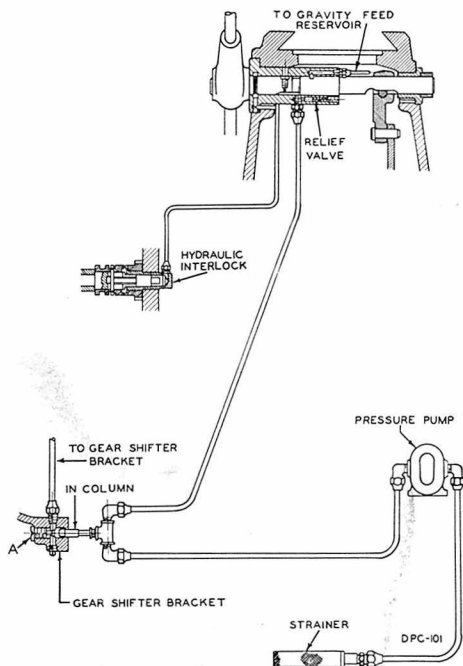

Figure 30
1. Remove screw plug "A", Fig. 30, at bottom of gear shifter bracket. Screw at least a 500 lb. hydraulic gage in this connection. This is a  $\frac{3}{4}$ —16 R. H. tapped hole and requires a special fitting, or drill and tap  $\frac{1}{4}$ " pipe thread through plug "A" for gage.